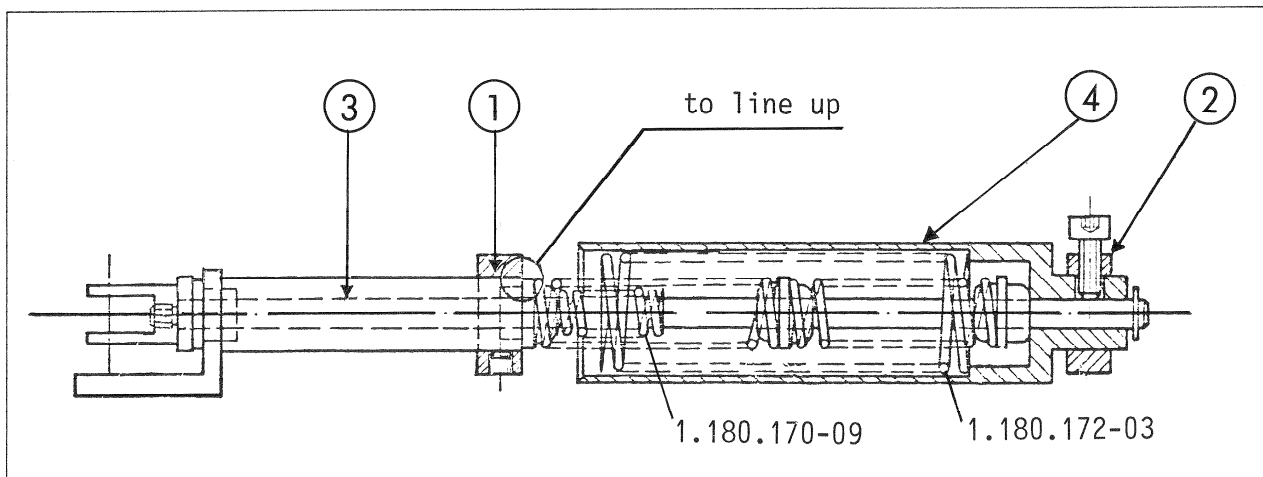

Figure 17
Loosen Allen screw (1.5 mm) of the spring adjusting ring (1). Shift edge of the adjusting ring (1) to line up with sleeve end (3) of spring (see figure 17).